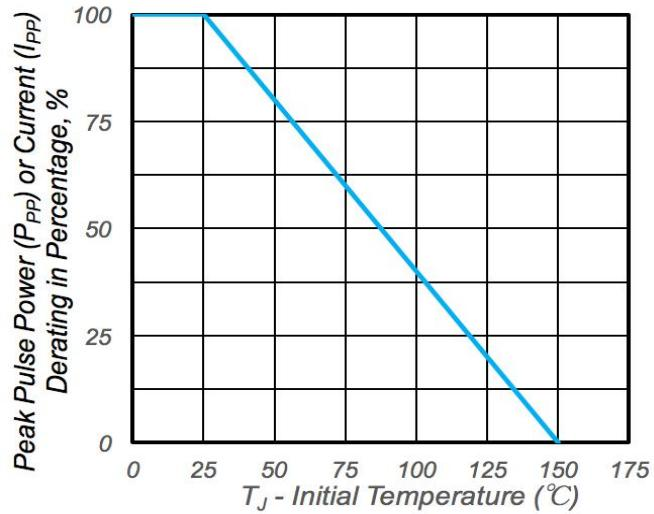
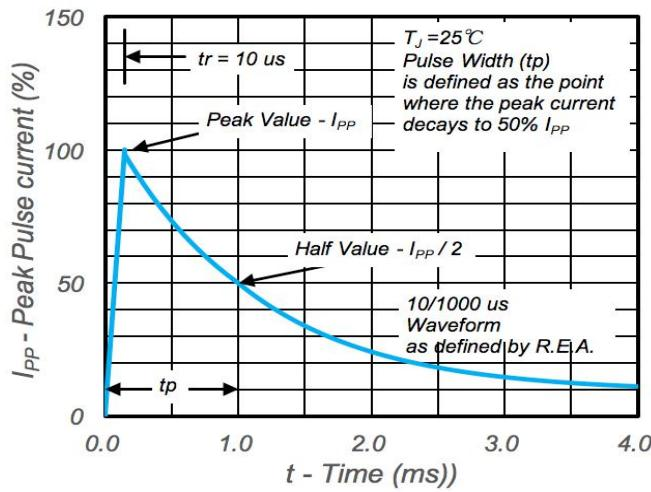

Fig.2 Pulse Derating Cure
Fig.3 Pulse Waveform
1. Non-repetitive current pulse, per Fig.3 and derated above T_A=25°C per Fig.2.